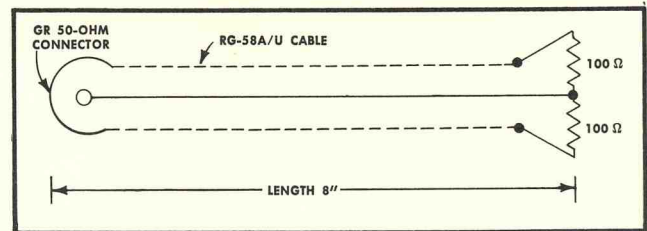

Fig. 6-1. 50-ohm terminated pigtail circuit.
- (1) Conventional test oscilloscope such as a Tektronix Type 540-Series Oscilloscope with a Type L Plug-In Unit, a Type P6000 10X Attenuator Probe and a Type P6027 1X Attenuator Probe. Substitute specifications: Bandpass 30 mc with the 10X probe; deflection factor, at least 50 mv per cm and at least 5 mv per cm at reduced bandpass.
- (2) Sampling test oscilloscope such as a Tektronix Type 561 Oscilloscope with a Type 3S76 and a Type 3T77 Plug-In Units. Substitute specifications: Risettime, 0.4 nsec or less; any deflection factor up to 20 volts per division. (The Tektronix Type 519 (conventional) Oscilloscope can also be used as an excellent substitute.)
- (3) One 50-ohm 20-nsec cable, 160", RG-8A/U, with GR 874 connectors on each end, Part No. 017-504.
- (4) One 50-ohm 5 nsec cable, 40", RG-8A/U, with GR 874 connectors on each end, Part No. 017-502.
- (5) One 50-ohm terminated cable assembled as shown in Fig. 6-1. Requires the following parts: